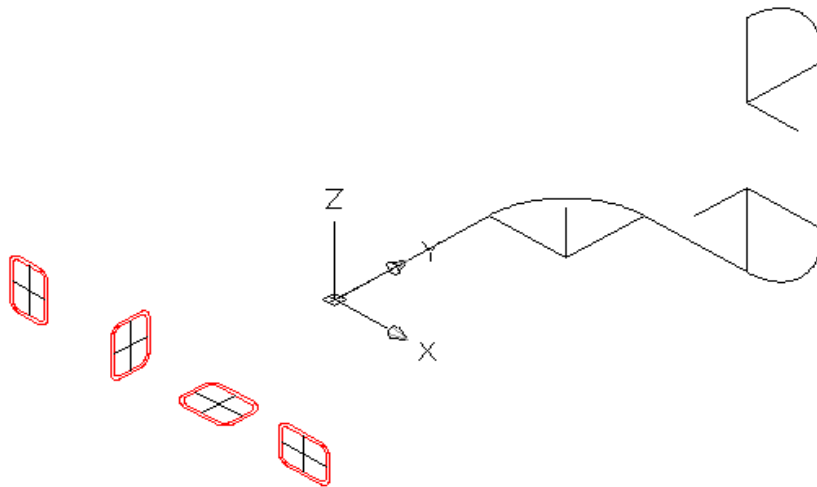

Figure Step 9B
Step 9 Make three additional copies of the model and rotate them to lay on different UCS views. See Figure Step 9A. Their location is not important. When complete, your drawing will appear similar to Figure Step 9B.